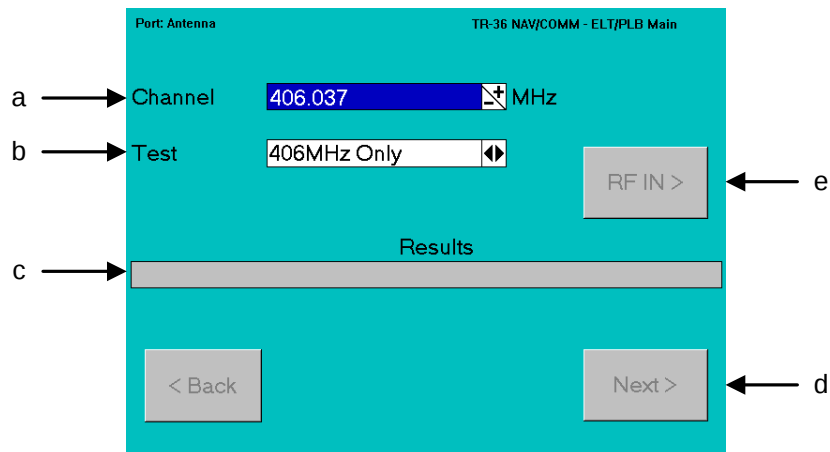

Figure 2-44. ELT/EPIRB Home Page
3. The Test allows the operator to select the following settings (Table 2-13 and Figure 2-44).